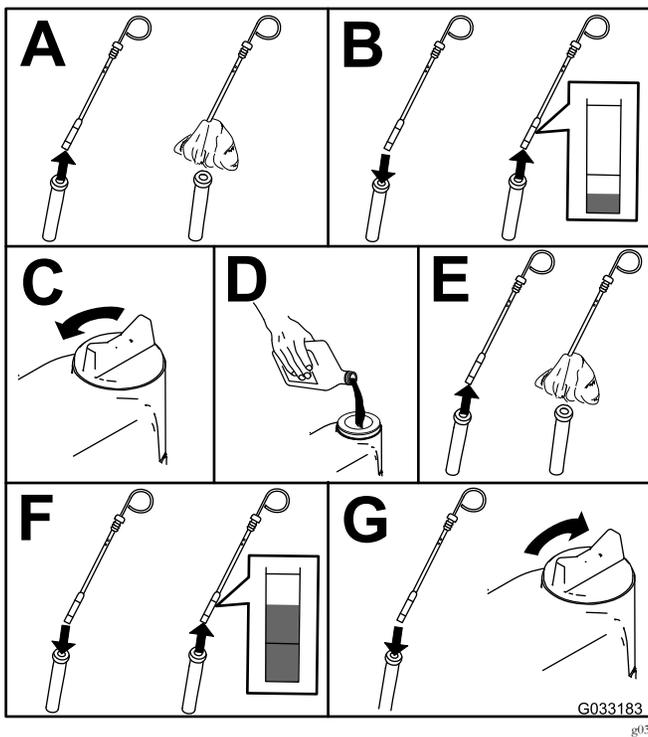

Figure 52
2. Check the engine-oil level (Figure 52).